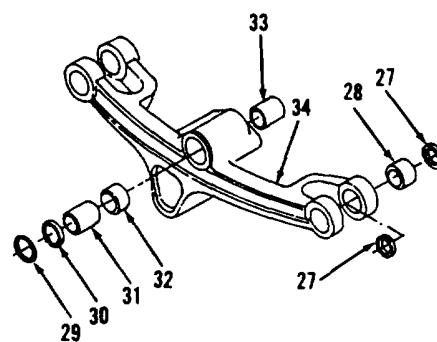

Figure 12-10.
1. Using a suitable puller, remove and discard eight seals (27) and four bearings (28, Figure 12-10).
2. Using a suitable puller, remove seal (29), ring (30), bearing (31), spacer (32) and bearing (33) from blade lift bar (34). Discard seal (29) and bearings (31 and 33).
1. Install ring (30) in blade lift bar (34, Figure 12-10).
2. Install new bearing (33), spacer (32) and new bearing (31). Using puller adapter, stud, nut, washer, puller assembly and pump group, bearings (33 and 31) and spacer (32) must bottom on ring (30).
3. Using a suitable driver, install new seal (29). Lip of seal (29) should be toward outside surface. Seal (29) should contact ring (30).
4. Using tooling in step 2, install four new bearings (28). Four bearings (28) should be at a depth of 0.390 to 0.422 inch from outside surfaces of blade lift bar (34).
5. Install eight new seals (27). Lip of eight seals (27) should be toward outside of bore. Eight seals (27) should be even with outside surfaces of blade lift bar (34).